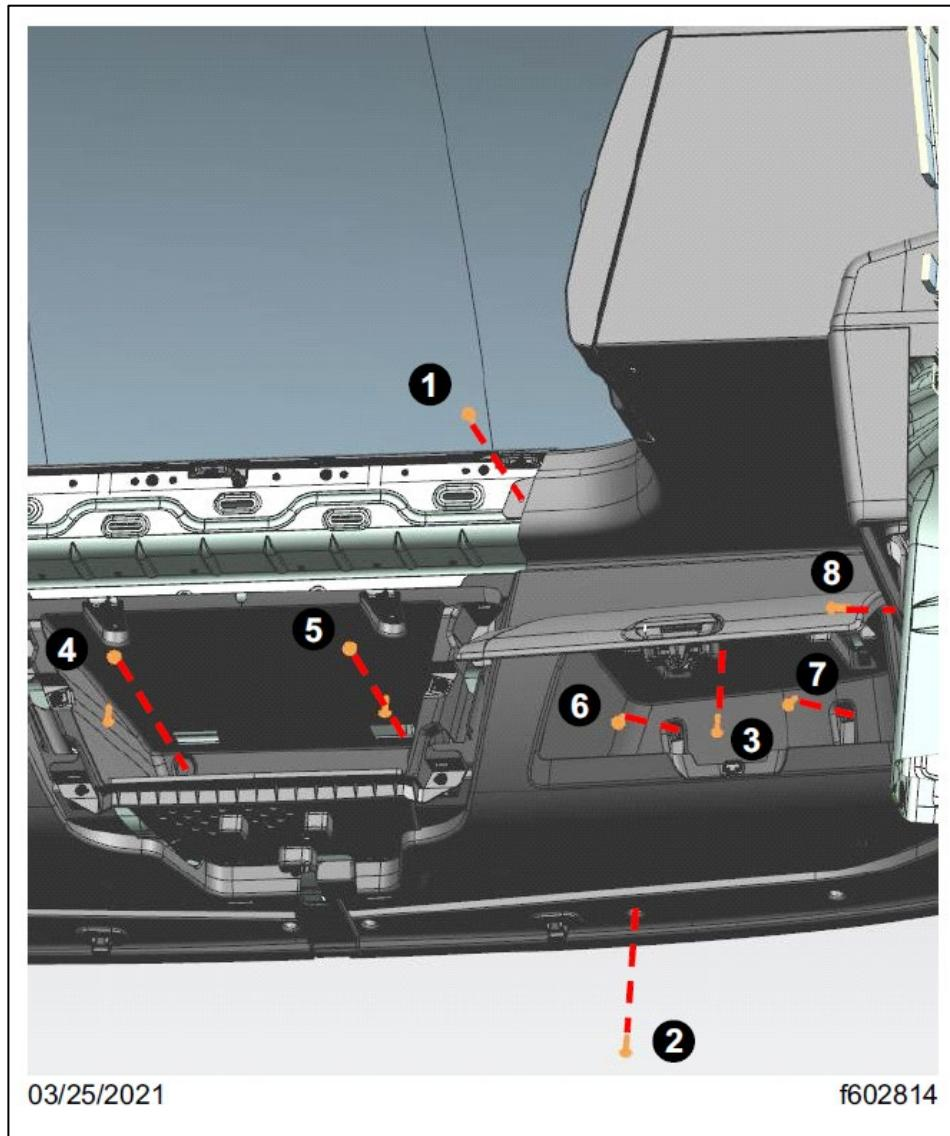

Fig. 64, Attach the Center Overhead Storage and the RH Side Overhead Storage Assembly to the Cab Roof
14.4. Install the fasteners that attach the center storage bin and the RH side overhead storage assembly to the cab roof. Tighten the fasteners 11 to 13 lbf.ft (14 to 18 N.m) as per sequence shown in **Fig. 64**.